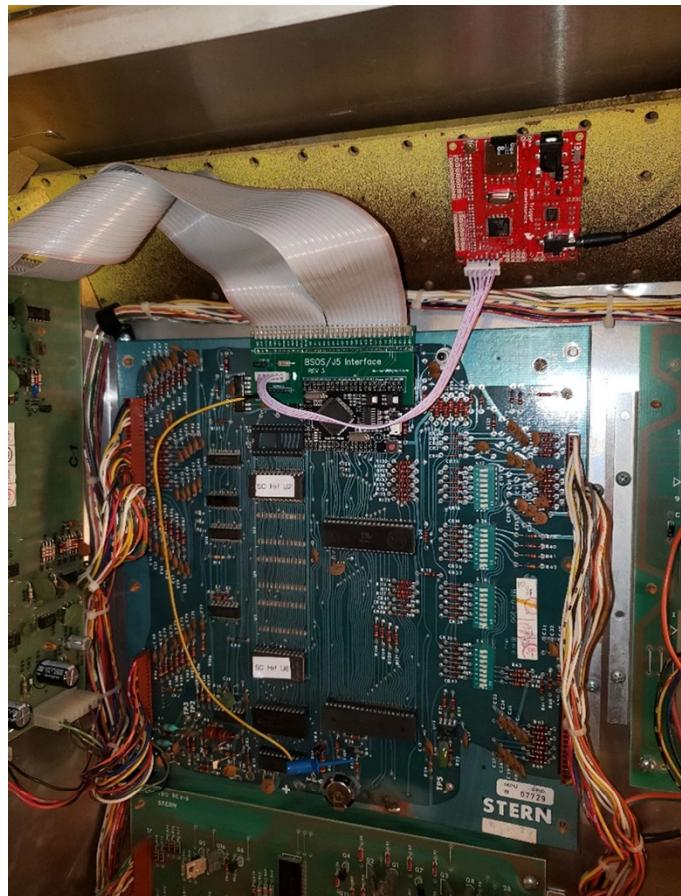

Figure 7
23. The sound board has a piece of foam mounting tape attached to the back. This tape can be used to temporarily mount the sound board. Place the sound board in a location close enough that the 6-pin ribbon cable can easily reach. Refer to Figure 7 for an example. For a more permanent installation, the use of mounting screws and standoffs is recommended.
28. Suggested installation: Figures 7 and 8 show an installation for Stern Trident, with powered speakers mounted on top of the game's backbox.